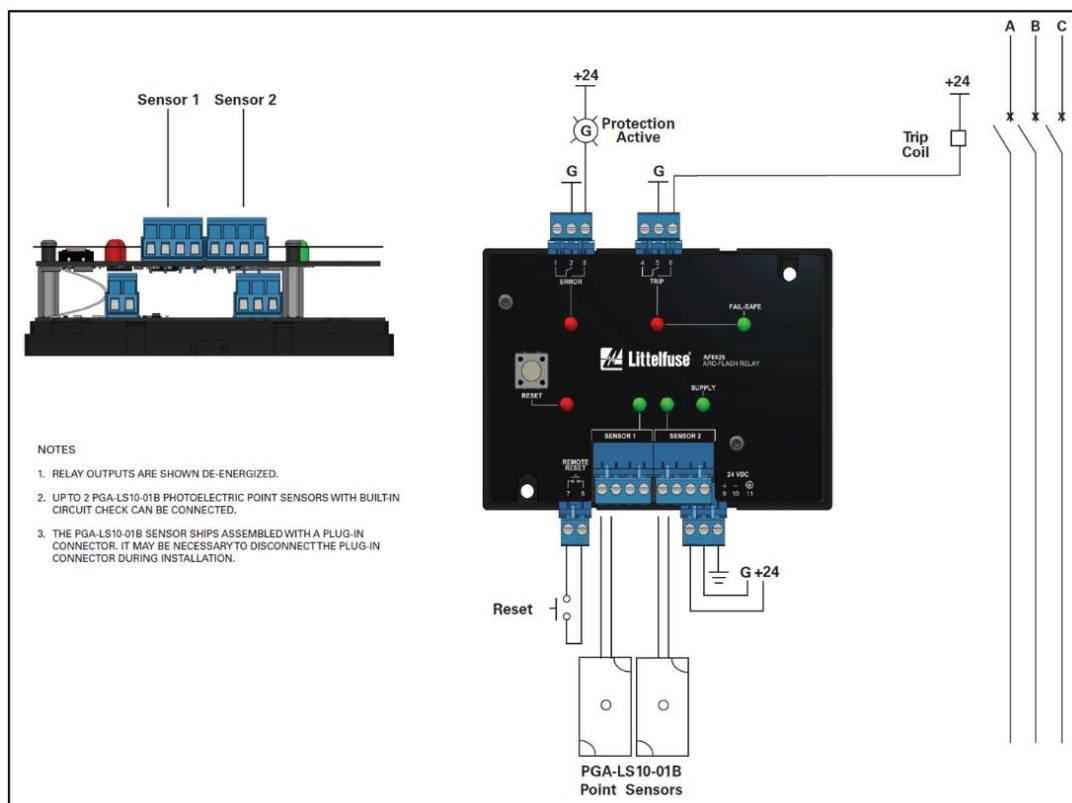

FIGURE 1. AF0025 Typical Wiring Diagram.
- 3. Install Arc-Flash Sensors:** Mount the PGA-LS10-01B sensor(s) in the locations to be monitored. Ensure the sensors are not blocked by fixed or moveable objects considering that light from the arc must fall upon a sensor to activate it. Treat all sensors and cables as though at ground potential, and do not place them where they may be in contact with energized conductors. Connect the sensors to the AF0025 (Fig. 1).
- 4. Connect Relay Outputs:** The ERROR and TRIP relays are Form-C contacts. By default, the operating mode of the TRIP relay is non-fail-safe and the ERROR (or unit health) relay is fail-safe. See Fig. 1 for one example application. See Section 6 in the AF0025 user manual to change the TRIP relay operating mode.